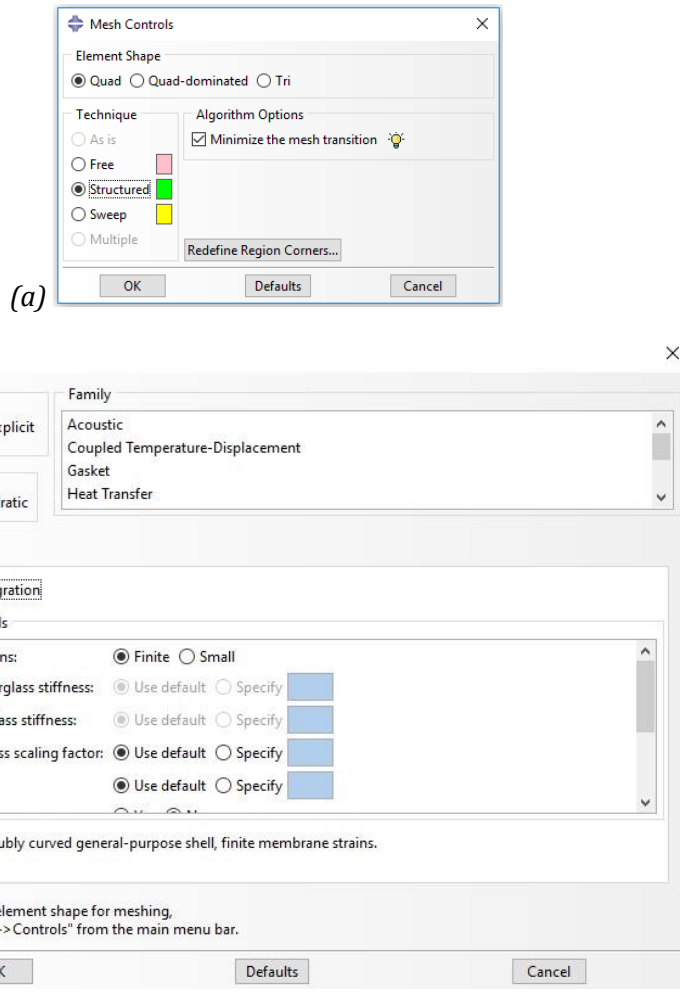

Figure 1-8 – (a) The Mesh Controls and (b) Element Type dialog box.
- For S4 and S8 elements: Use **Quad** as **Element type** and **Structured** as **Technique**. See Figure 1-8(a).
- From the tools on the left ribbon, choose **Assign Element Type**. See Figure 1-8(b). The following elements can be interesting to investigate: